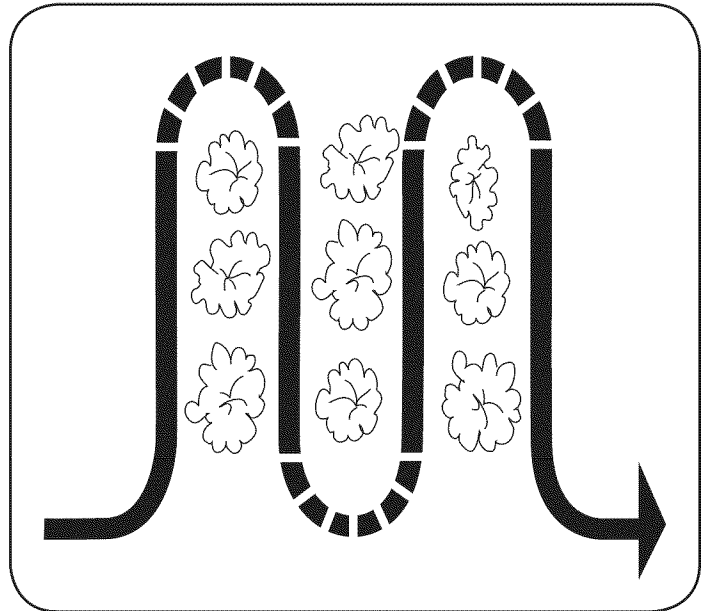

Figure 15
- When cultivating (breaking up the surface soil around the plants to destroy weeds, See Figure 15), adjust the tines to dig only 1” to 2” deep. Using the shallow tilling depth helps prevent injury to the plants whose roots often grow close to the surface. If needed, lift up on the handlebars slightly to prevent the tines from digging too deeply. (Cultivating on a regular basis not only eliminates weeds, it also loosens and aerates the soil for better moisture absorption and faster plant growth.) Watering the garden area a few days prior to tilling will make tilling easier, as will letting the newly worked soil set for a day or two before making a final, deep tilling pass.